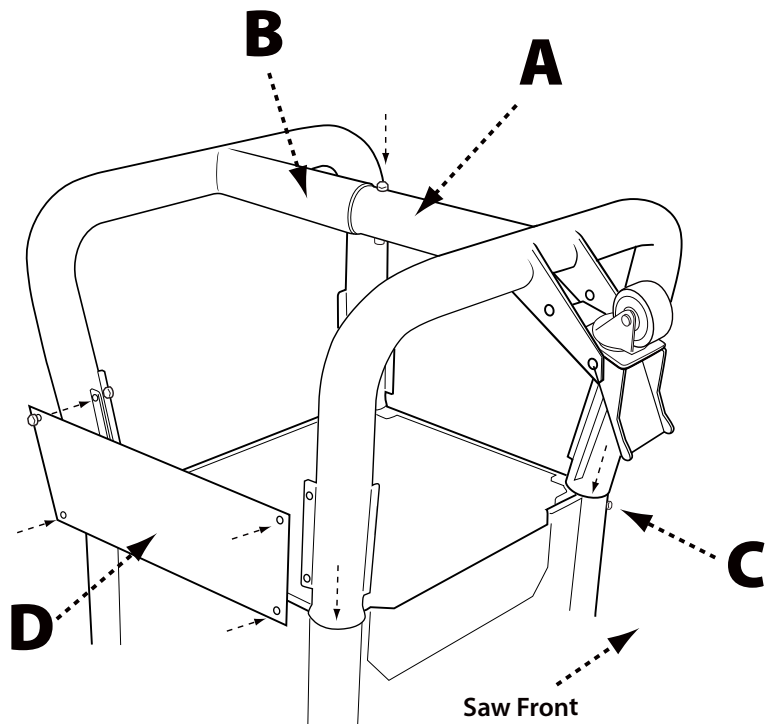

FIGURE 1
1. Connect the two tube legs by inserting the end of the left leg (A) into the end of the right leg (B) as shown in Figure 1. Secure with a M8 x 70mm carriage bolt and nylock nut and hand tighten.
2. Insert the four open ends of the tube legs into the leg collars (C) as shown. Secure each leg with a 6mm x 70mm bolt and nut.
3. Attach the back and front leg support panels (D) to the legs using four M6 x 12mm self-tapping bolts.